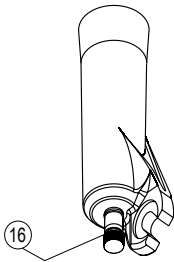

Figure 6
To adjust the return speed use the button (16) located at the bottom of the Lower in the hydraulic leg - see Figure 6. Turn the knob (16) clockwise for slower rebound and counter-clockwise for faster rebound.